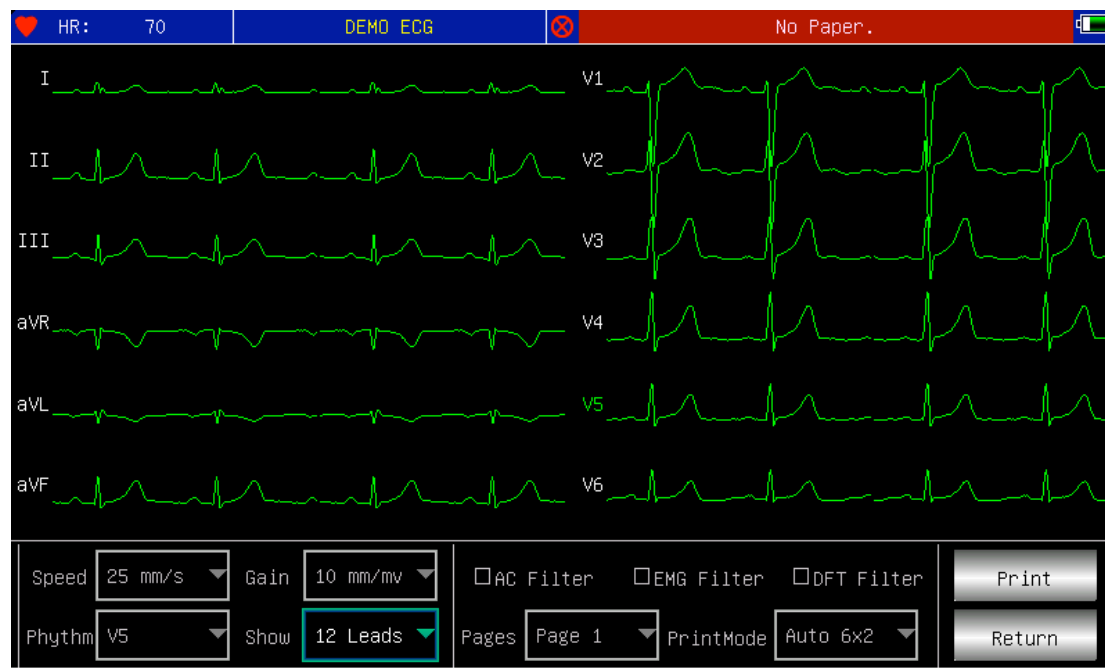

Figure 9-1
9.1 Message "No Paper." will be displayed on the LCD whenever recording paper is run out. (See Figure 9-1)